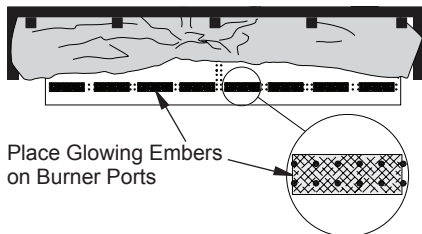

Figure 16 - Placement of Embers
3. Add embers to front flat burner as shown in Figure 16, page 15. (12 pieces are supplied with 24" models and 8 pieces with 18" models.) Additional glowing effect can be achieved by fraying edges of ember material.
⚠ WARNING: Do not operate unit without ember material correctly in place as shown in Figure 16. Do NOT place ember material anywhere else on the unit. Use only ember material supplied with unit. Excessive or incorrectly placed ember material may produce carbon monoxide or soot.